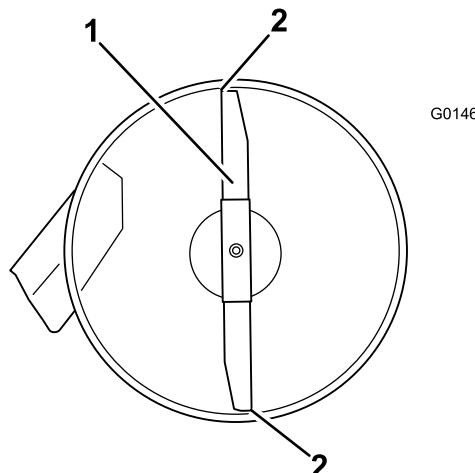
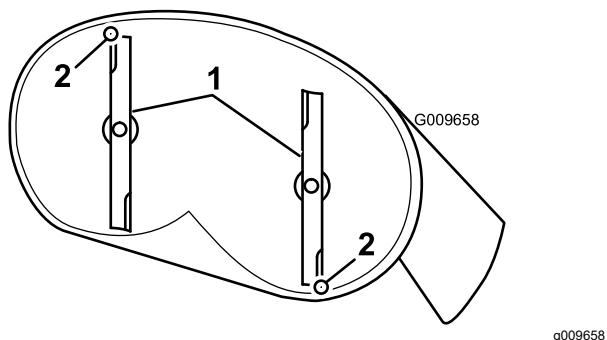

Figure 60
Figure 61
- Carefully rotate the blade(s) so they are facing front to rear (Figure 60 and Figure 61).
- Measure from the tip of the front blade to the flat surface, and the tip of the rear blade to the flat surface (Figure 60 and Figure 61).
- After adjustment, check the front-to-rear slope again, continue adjusting the nut until the front blade tip is 1.6 to 7.9 mm (1/16 to 5/16 inch) lower than the rear blade tip (Figure 60 and Figure 61).